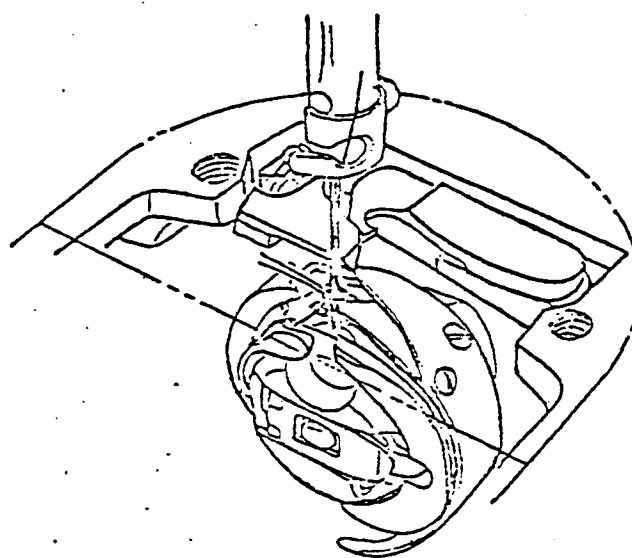

Fig. 5
1. When the foot treadle is returned to its neutral position upon completion of the sewing cycle, the machine stops approximately 3mm (.118") beyond the bottom dead center of the needle (hook point in the loop of needle thread). (Fig. 5)